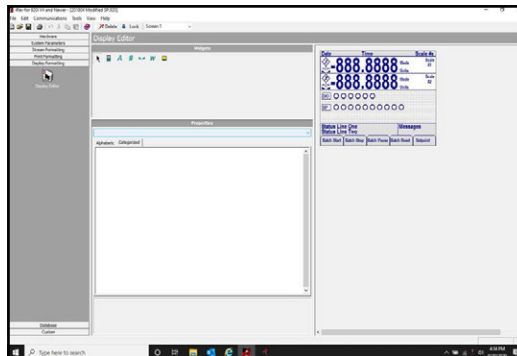

Figure 8-6. 920i Batching Softkeys
**NOTE:** Once the 201804.cod and 201804.920 files are downloaded to the 920i, softkeys will be shown (Figure 8-6) and operate in normal batching operation.
Softkeys allow the operator control of batch operations from the 920i front panel (Figure 8-6) once the download of 201804.cod and 201804.920 files are complete.